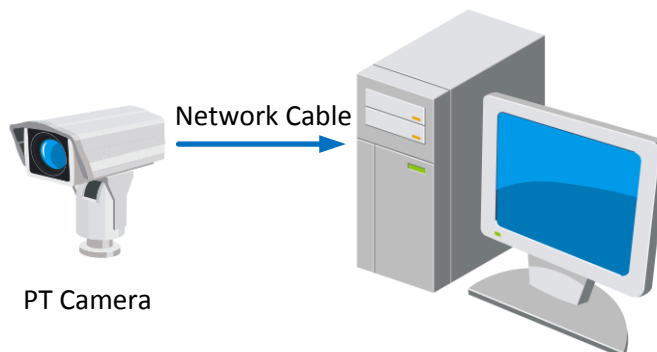

Figure 2-1 Connecting Directly
- To test the network positioning system, you can directly connect the network positioning system to the computer with a network cable as shown in Figure 2-1.